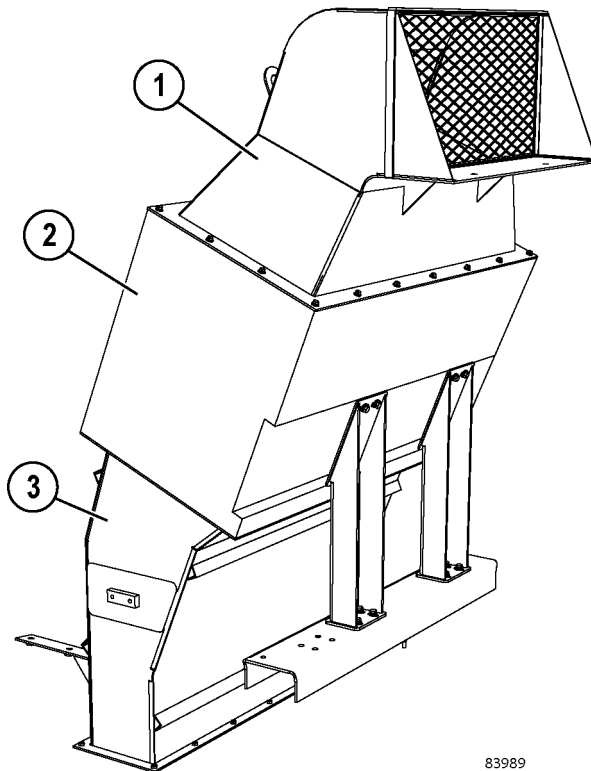

FIGURE 32-3. INTAKE SILENCER
There is an alternator air intake silencer (2, Figure 32-3) fitted to the intake of the alternator blower fan ducting.
Lifting lugs are fitted to top inlet duct (1, Figure 32-3) intake silencer (2) and lower inlet duct (3). Removal of the silencer can be accomplished by lifting it in conjunction with the top inlet duct.